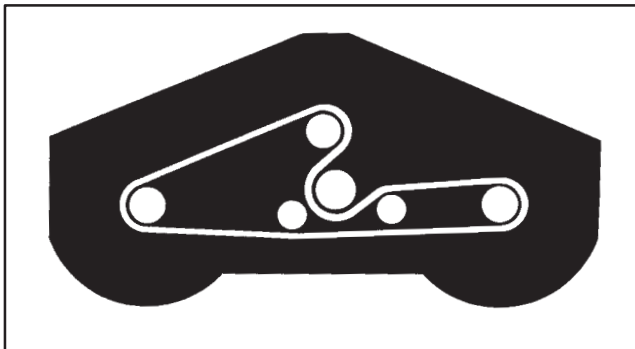

Figure 25
- Route new belt around spindle pulleys and thru idler pulley assembly, as shown in figure 25.